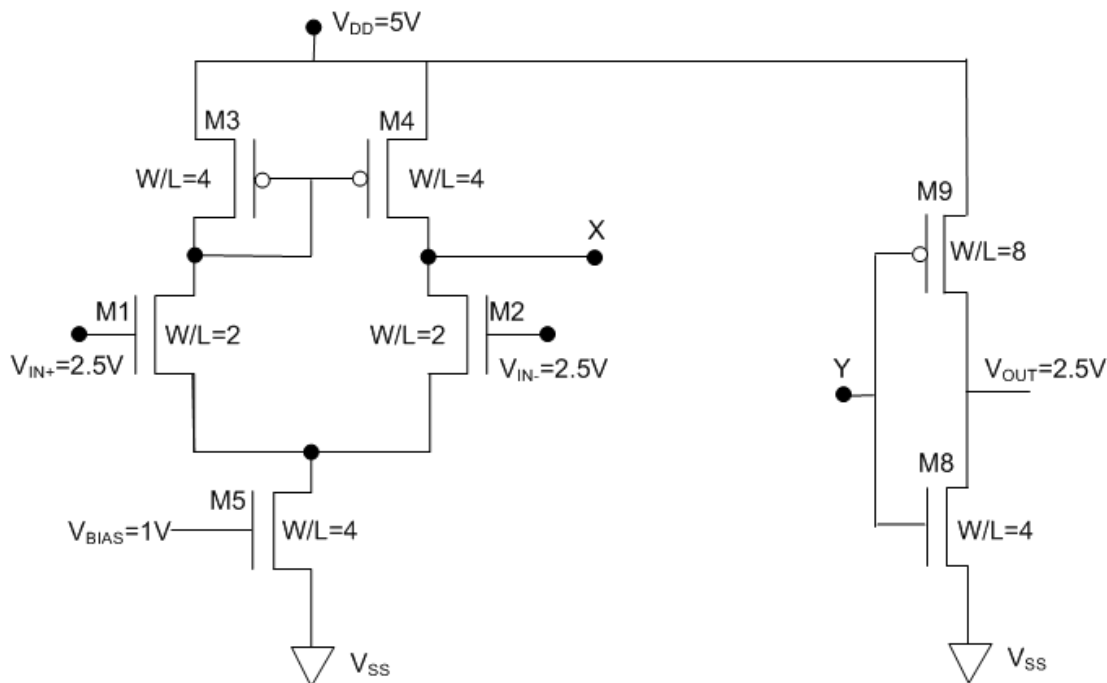

Fig. 5.1
5. Fig. 5.1 shows an incomplete circuit schematic for a simple op-amp stage made in the n-well CMOS technology of Lab 2. Here an inverter formed by M8 and M9 serves as a final gain stage. In the following assume $V_{Tn} = -V_{Tp} = 0.7 \text{ V}$ and $\mu_n = 2\mu_p$
- a) For the bias conditions specified in Fig. 5.1, what is the DC level V_X at node X? Show the steps in your solution. Ignore the body effect. *9 marks*
- b) Complete the schematic of Fig. 5.1 by adding a level shifter stage to connect node X and node Y. The level shifter should give $V_{\text{out}} = 2.5 \text{ V}$ when $V_{\text{in}+} = V_{\text{in}-} = 2.5 \text{ V}$. Compute the W/L ratios required for the transistors in the level shifter. The V_{bias} supply shown in Fig. 5.1 may be used in the level shifter. Briefly explain your work. *9 marks*
- c) Confirm that transistor M2 in Fig. 5.1 is in saturation.